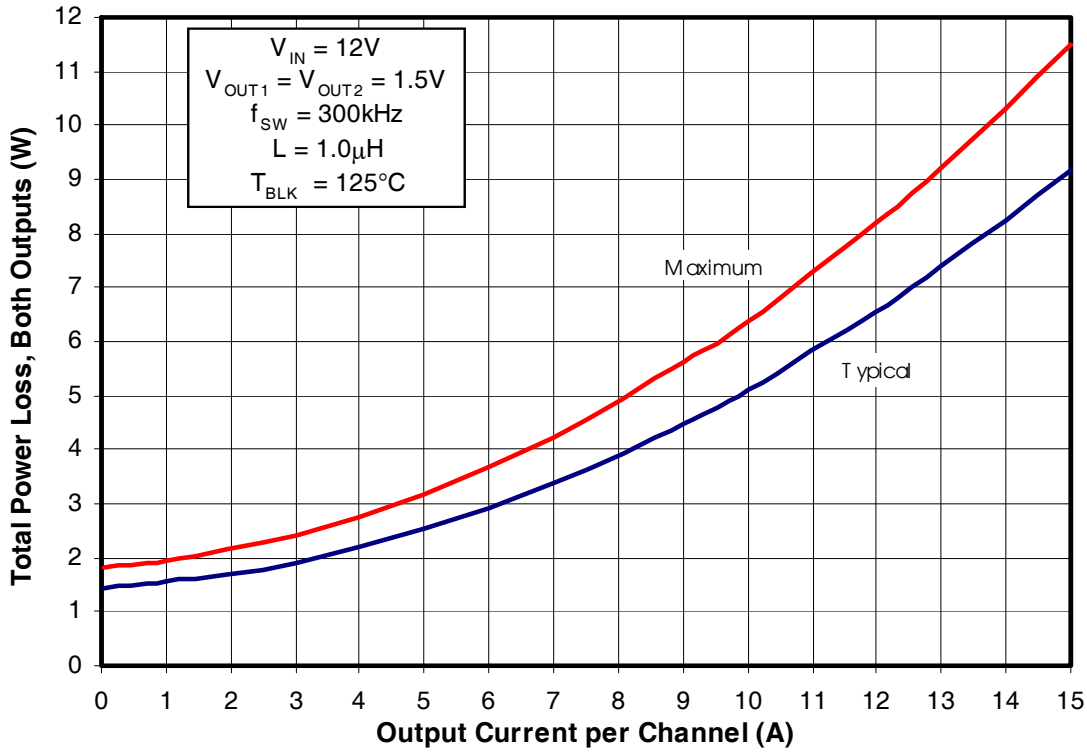
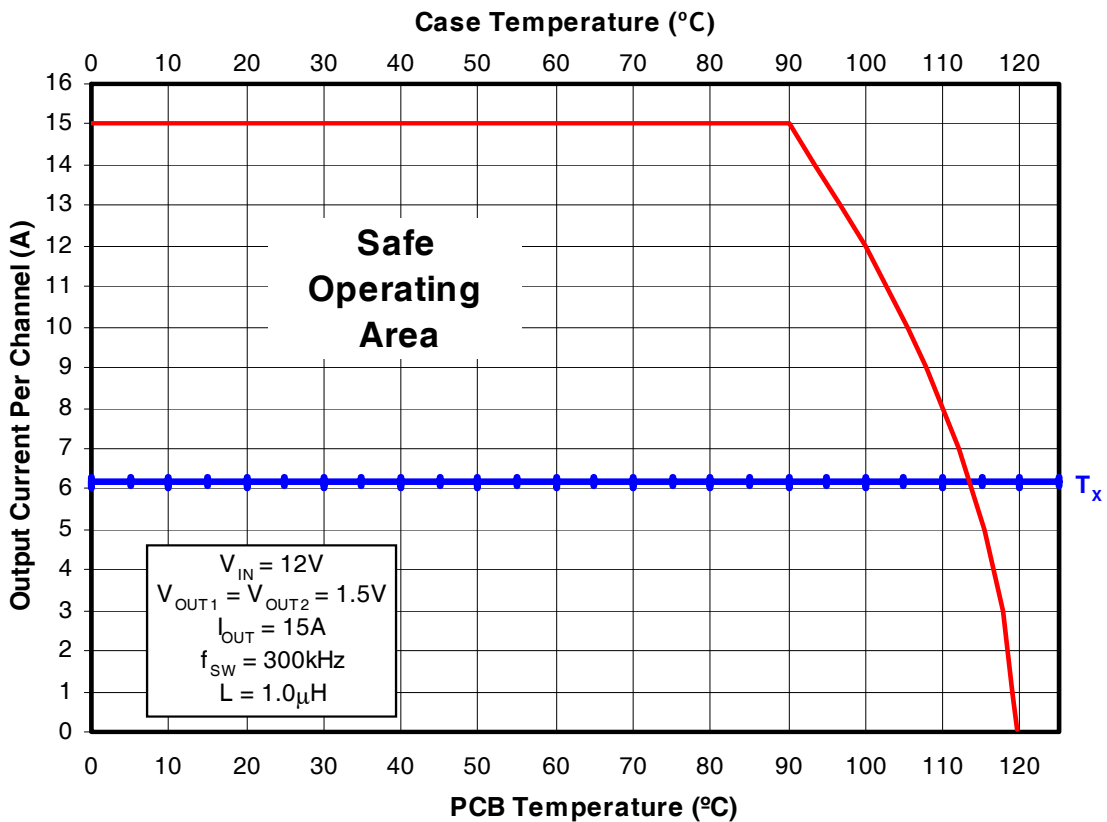
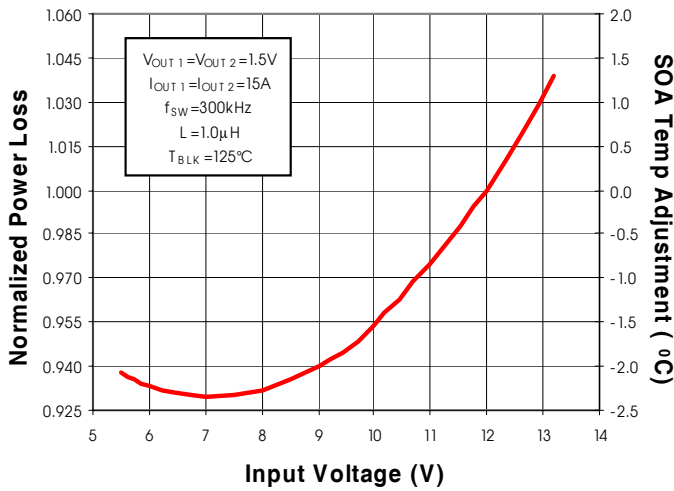

Fig. 2: Power Loss vs. Current
Fig. 3: Safe Operating Area (SOA) vs. T_{PCB} & T_{CASE}
Fig. 4: Normalized Power Loss vs. V_{IN}
To make adjustments to the power loss curves in Fig. 2, multiply the normalized value obtained from the curves in Figs. 4, 5, 6 or 7 by the value indicated on the power loss curve in Fig. 2. Remember that the power loss in Fig 2. is the power loss for 2 outputs operating with the same output voltage. If differing output voltages are used the initial power loss for each channel needs to be divided by 2. Then if multiple adjustments are required, multiply all of the normalized values together, then multiply that product by the value indicated on the power loss curve in Fig. 2. The resulting product is the final power loss based on all factors. See example no. 1.
To make adjustments to the SOA curve in Fig. 3, determine your maximum PCB Temp & Case Temp at the maximum operating current of each iP1202. Then, add the correction temperature from the normalized curves in Figs. 4, 5, 6 or 7 to the T_x axis intercept (see procedure no. 2 above) in Fig. 3. When multiple adjustments are required, add all of the temperatures together, then add the sum to the T_x axis intercept in Fig. 3. See example no. 2.
- Output1 (Fig. 2) Maximum power loss = $W 8.25/2 = 4.125W$
(Fig. 4) Normalized power loss for input voltage ≈ 0.93
- Output2 (Fig. 2) Maximum power loss = $6.4W / 2 = 3.2W$
- (Fig. 4) Normalized power loss for input voltage ≈ 0.93
- Output1 (Fig. 4) Normalized SOA Temperature for input voltage $\approx -2.3^{\circ}C$
- Output2 (Fig. 4) Normalized SOA Temperature for input voltage $\approx -2.3^{\circ}C$